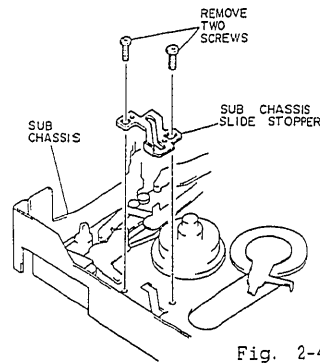

Fig. 2-42
- 1) Remove two (2) screws holding the sub chassis slide stopper. (See Fig. 2-42)